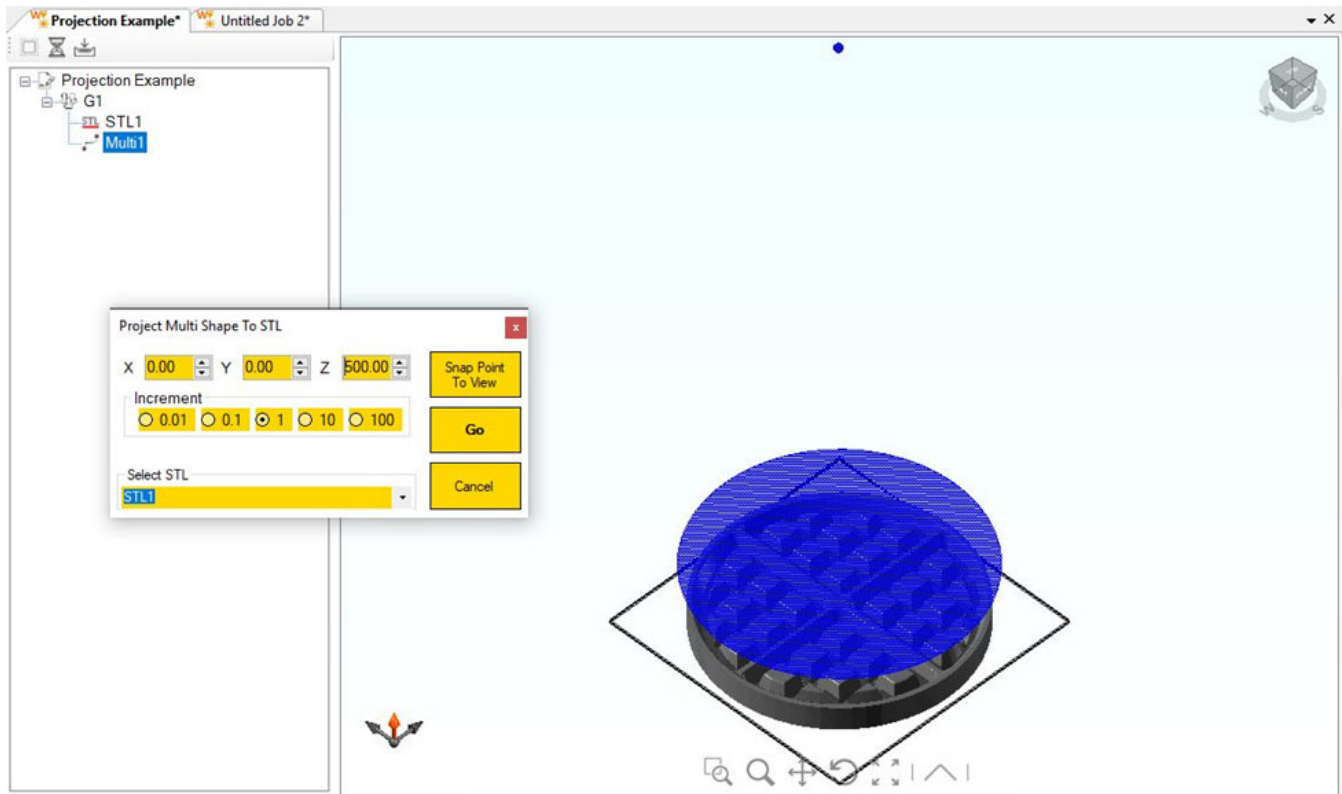

Figure 136: Aligning the Projection Point, Process Object, and STL Model
9. Once the projection point is aligned as desired (see Figure 136 on page 147), the user can click "Go" to project the process object.